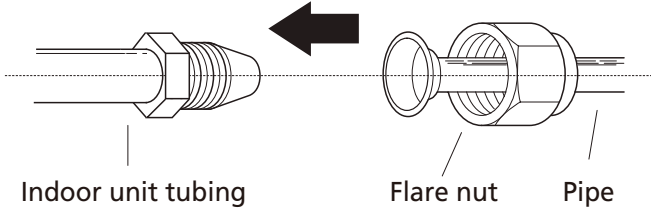

Fig. 5.7
- Align the center of the two pipes that you will connect. See **Fig. 5.7** .